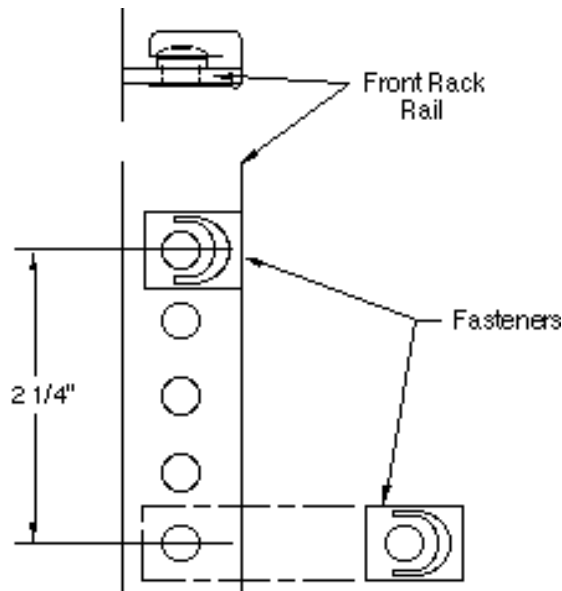

Figure 1
3. Referring to Figure 1, install four fasteners so that the captive nuts are located behind the appropriate holes on the front rack rails.